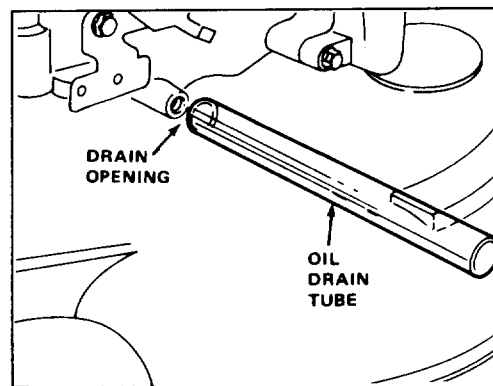

Figure 17
4. Insert oil drain tube over drain opening and lower mower (Fig. 17). Raise